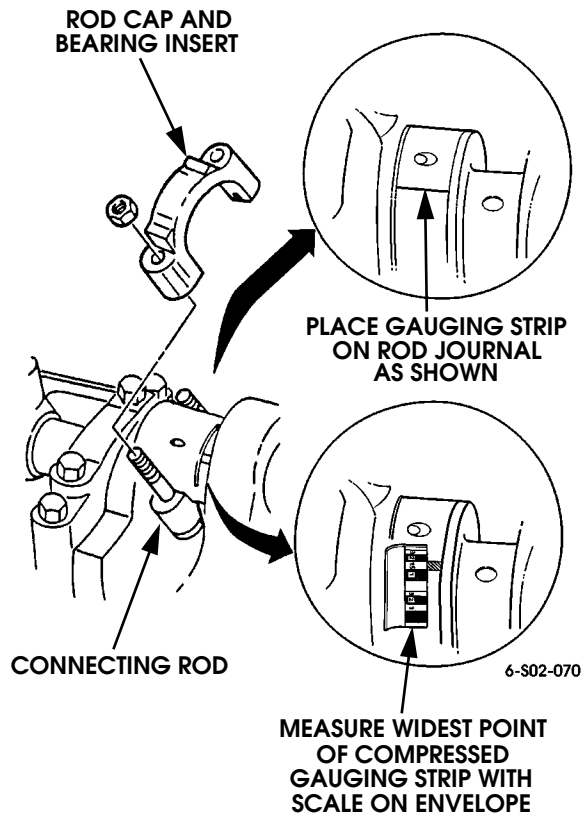

Figure 2-185: Measuring Connecting Rod Bearing Clearance with Plastic Gauging material
- a. Place strip of plastic gauging material on crankshaft rod journal (Figure 2-185).
- c. Remove rod cap and measure gauging material with graduated scale on plastigauge envelope (Figure 2-185). Clearance should be 0.0017-0.0039 in. (0.045-0.100 mm).